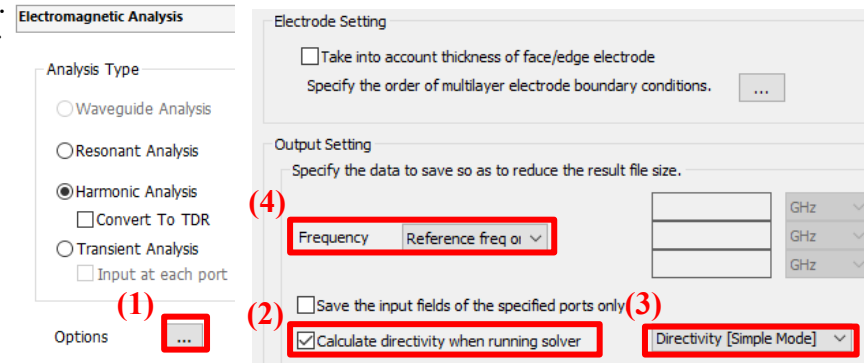

Fig. 1 The [Options] button on the Electromagnetic Analysis tab and the [Options for Electromagnetic Analysis] dialog box.
- If Electromagnetic analysis, Select [Options] in the electromagnetic analysis dialog box and set the settings for directivity according to Fig. 1.